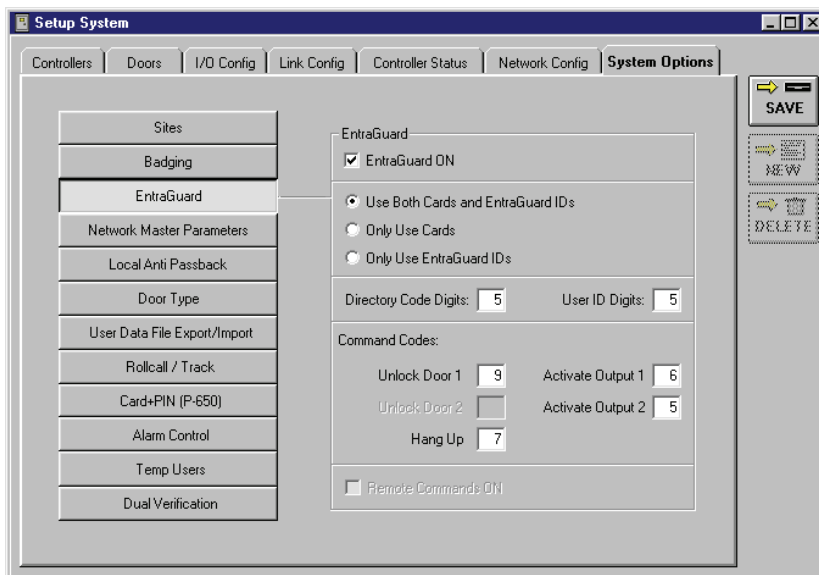

Figure 10-1: System Options Tab - EntraGuard Enabled
The EntraGuard feature can be disabled if necessary, removing all the EntraGuard related database fields. The EntraGuard ON check box is used to disable the EntraGuard feature (see Figure 10-1).
1. To disable the EntraGuard feature, click on the Setup ⇒ System pull-down menu or click on the  button on the tool bar, click on the **System Options** tab, then click on the  button. The System Options window will change to reveal the options for setting the telephone entry options. The Systems Options window should look similar to the following window (see Figure 10-1).